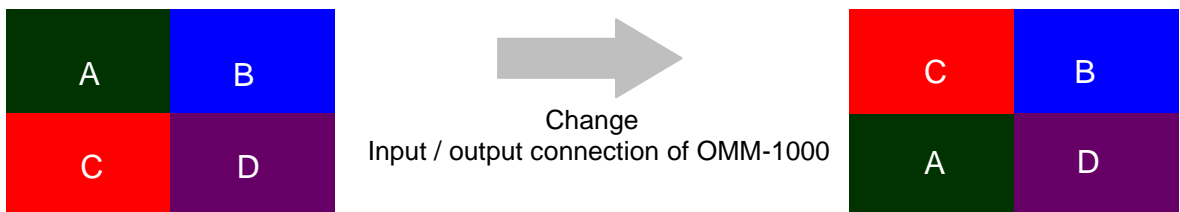

Fig 4-8 Changing widow position of layout
2. To change position of window in layout 5, 6 and 7, user must change the order of input to QDVI-O. For example, If the QDVI-O is in output slot 2, to change window position of layout 5 as shown in Fig 4-8, user must change input output connection.
In Fig 4-8, Video source A is output 5 of OMM-1000 and it is also the 1st input to QDVI-O